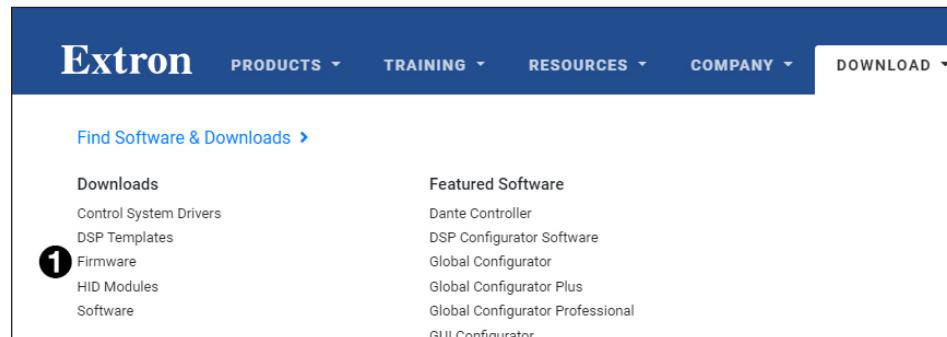

Figure 8. Firmware Link on the Download Tab
1. On the Extron website, www.extron.com, go to the **Download** tab and click **Firmware** (see figure 8, **1**).